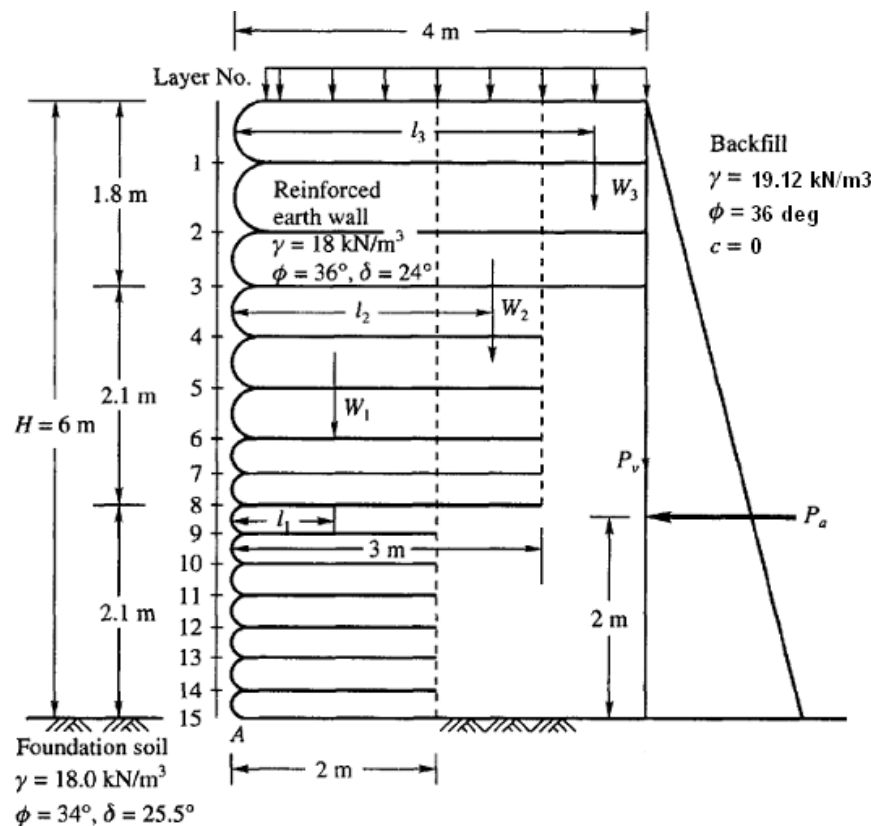

Figure .1
- Q.2** Figure.1 shows section of a retaining wall with geotextile reinforcement. The wall is backfilled with granular soil having $\phi = 36^\circ$, $\gamma = 19.12$ kN/m³. A woven slit-film geotextile with warp direction ultimate wide-width strength of 70kN/m and having $\phi = 26^\circ$ is intended to be used in its construction. The orientation of the geotextile is perpendicular to the wall face and the edges are to be overlapped to handle the weft direction. A factor of safety of 1.5 is to be used along with site specific reduction factors. Determine (i) spacing of the individual layers of geotextile (ii) length of fabric layers (iii) check for overlap (iv) check for external stability. The backfill carries a uniform surcharge dead load of 8kN/m². Assume $C_r = 0.8$ and $C_i = 0.75$. **14**